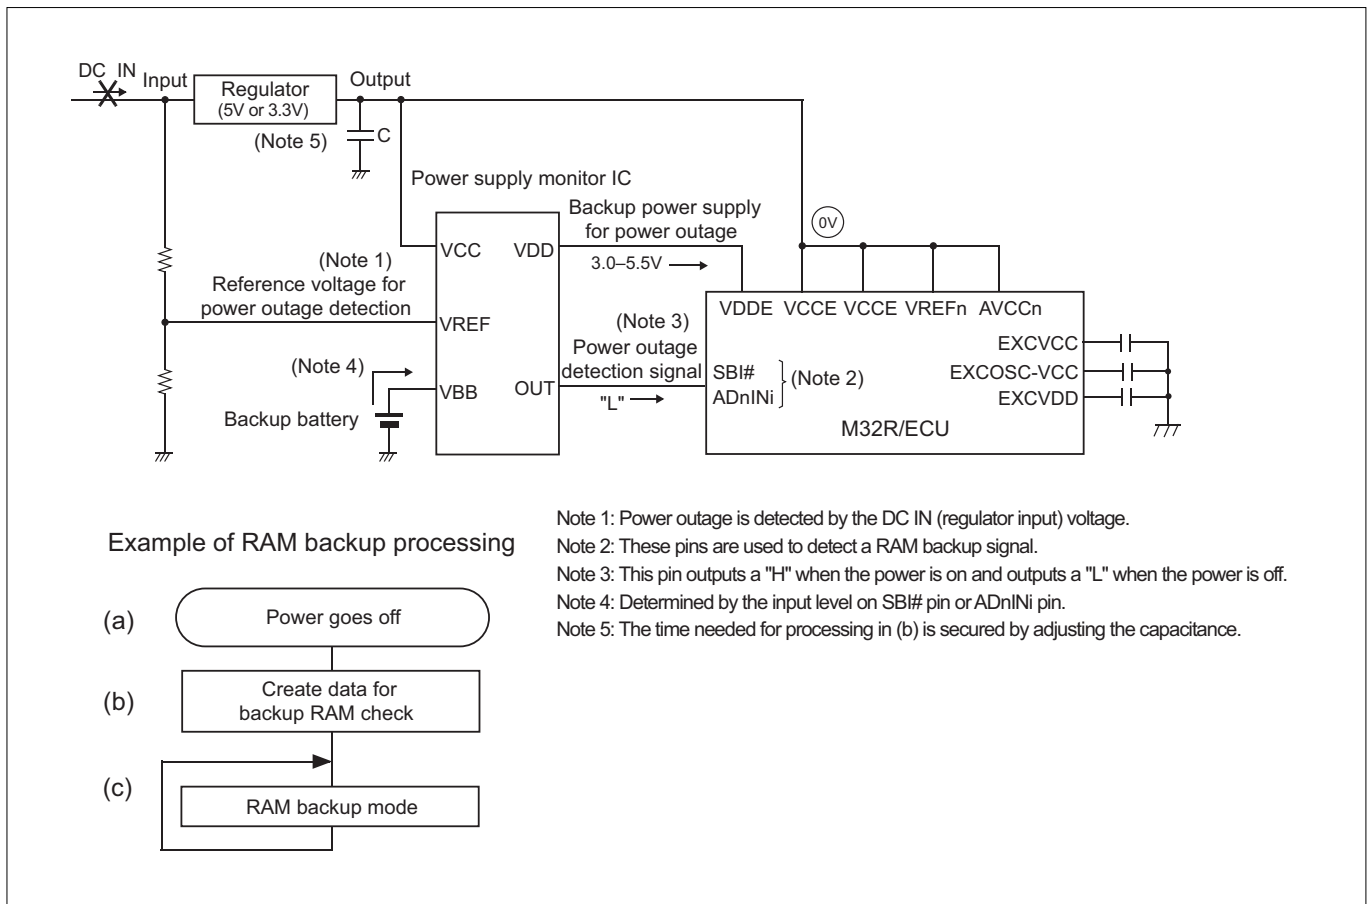

Figure 17.2.3 Power Outage RAM Backup State
Figure 17.2.3 shows the power outage RAM backup state of the M32R/ECU. When the power supply goes off, the power supply monitor IC starts feeding current from the backup battery to the M32R/ECU. Also, the power supply monitor IC's power outage detection pin outputs a "L", causing the SBI# pin or ADnINi pin to go "L", which generates a RAM backup signal ((a) in Figure 17.2.3). Determination of whether the power is off must be made with respect to the DC IN (regulator input) voltage in order to allow for a software processing time at power outage.
- (1) Create data for RAM check to verify whether the RAM data has been retained normally after returning from RAM backup mode to normal mode ((b) in Figure 17.2.3).
If the power supply to VCCE goes off after making above setting, the VDDE pin voltage goes to 3.0–3.3 V and all other pin voltages drop to 0 V, and the M32R/ECU is thereby placed in RAM backup mode ((c) in Figure 17.2.3).